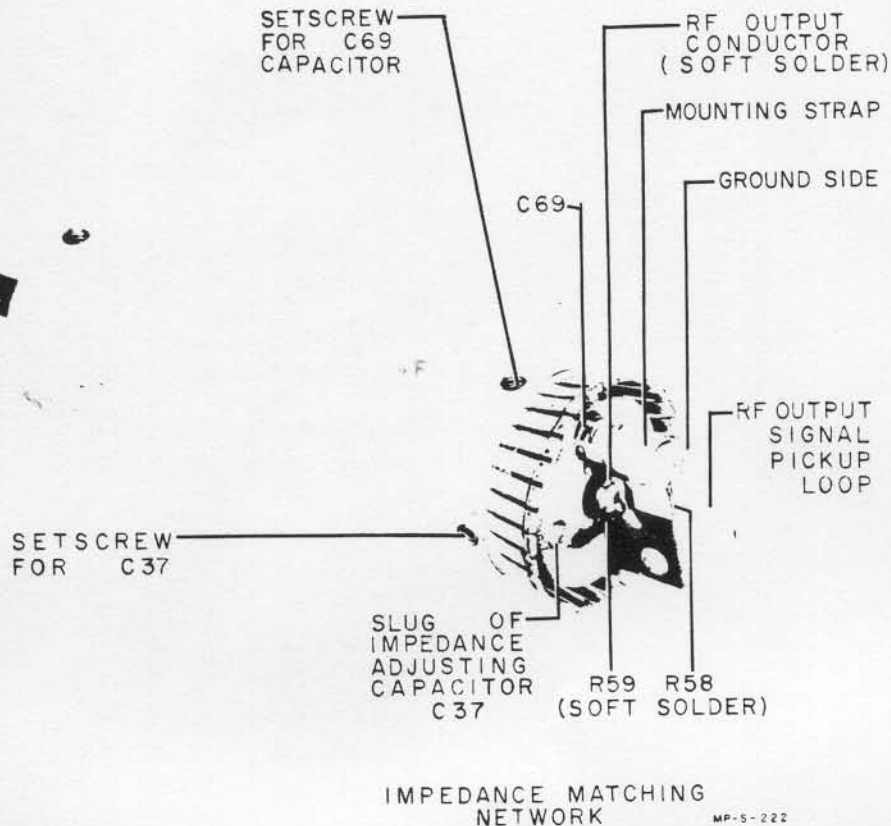

FIGURE 4-8. R-F OUTPUT ATTENUATOR PROBE, SHOWING PICKUP LOOP AND IMPEDANCE MATCHING NETWORK
1) Capacitor C69 (Figure 4-8). Capacitor C69 is held in place by a mounting strap and a setscrew. To replace C69, unsolder pickup loop at capacitor end (ground side of loop), loosen setscrew, and slide capacitor out of clamp. Replace by reversing this procedure. The capacitor must be firmly seated in the hole in the end of the probe before tightening the setscrew. The capacitor ground lead can easily be cut in two if the setscrew is tightened excessively.
2) Capacitor C37, Resistor R58, Resistor R59 (Figure 4-8). Before starting replacement procedure, read NOTE in subparagraph a. above.